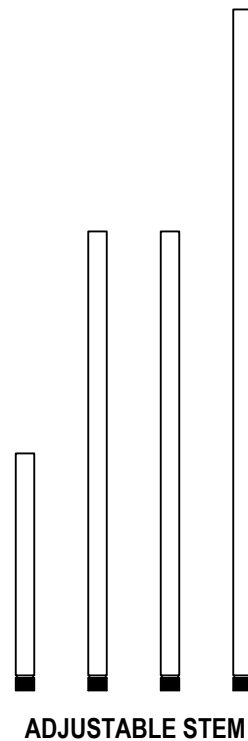

FIGURE-2
- This fixture is supplied with with a 4-pcs. stem. There is one 6" section, two 12" section and one 18" section. This feature allows the fixture to be mounted with a stem up to 48" in length in 6" increments (See figure-2)